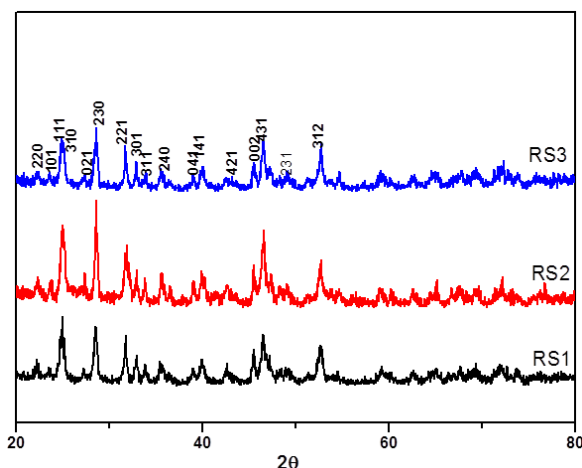

Figure SI 3 XRD pattern of Nanocrystalline Bi_2S_3 samples RS1, RS2 and RS3 after photocatalysis
Figure SI 3 gas chromatograph for hydrogen (A) for H_2S (B) for H_2O
Figure SI 3 (RS1-RS3) shows the XRD pattern for sample S1, S2 and S3 taken after photocatalytic hydrogen generation. Figure shows orthorhombic crystal structure and it is consistent with XRD pattern taken before photocatalytic hydrogen generation. Figure SI 3 and Figure 1 in revised manuscript reveals that there is no structural change in Bi_2S_3 before and after photocatalysis.